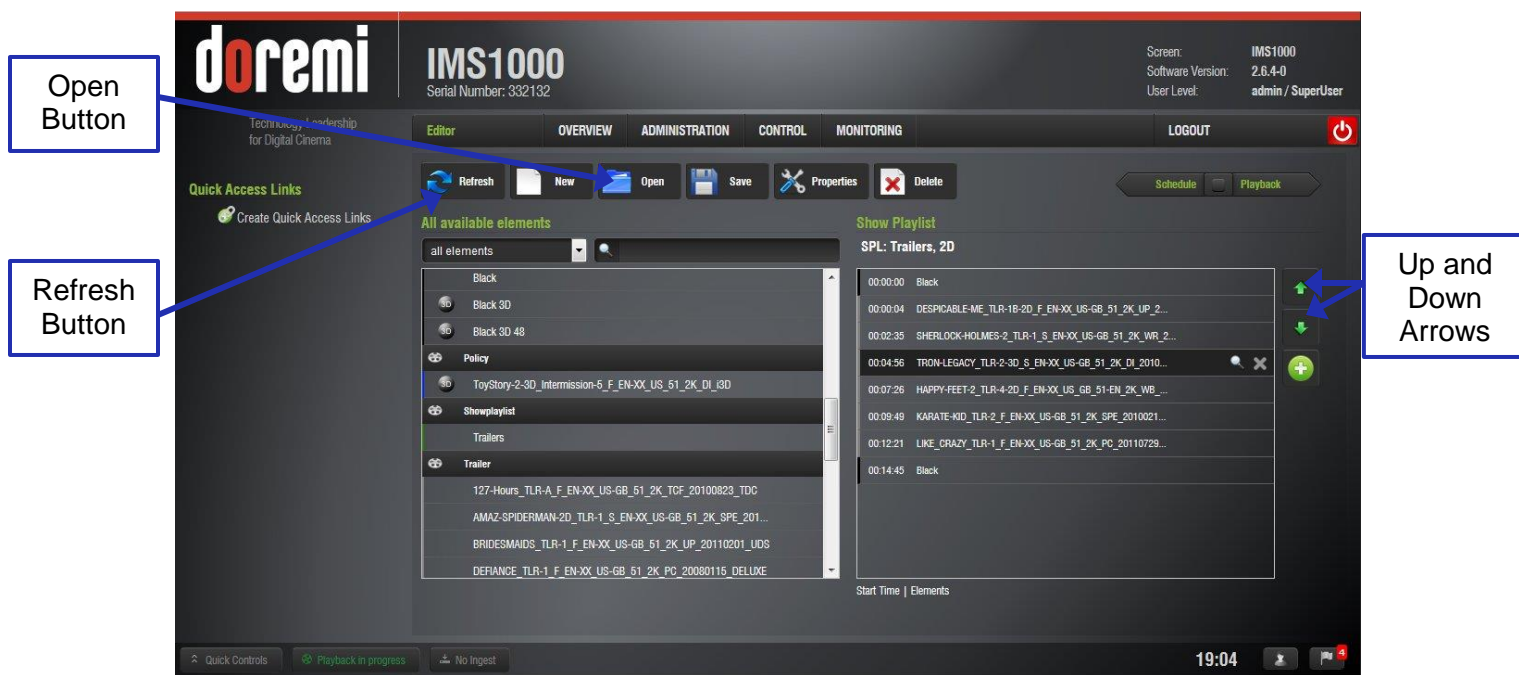

Figure 232: Element Re-Ordering
- To move an element to the top of the Show Playlist, select it and click on the arrow pointing up (Figure 232).
- To move an element to the bottom, select it and click on the arrow pointing down (Figure 232).
Anytime new content and a package are ingested into the server, the items will not be displayed automatically in the CineLister GUI if CineLister is already running. Click on the Refresh Contents button from the Editor tab (Figure 232) to see an updated version of all available items that have been ingested.
- To open an existing Show Playlist, click on the Open button from the CineLister Editor tab (Figure 232).
- Click on the Open button in the CineLister Editor tab (Figure 232).
- Re-order the elements within the SPL by using the up and down arrows (Figure 232).